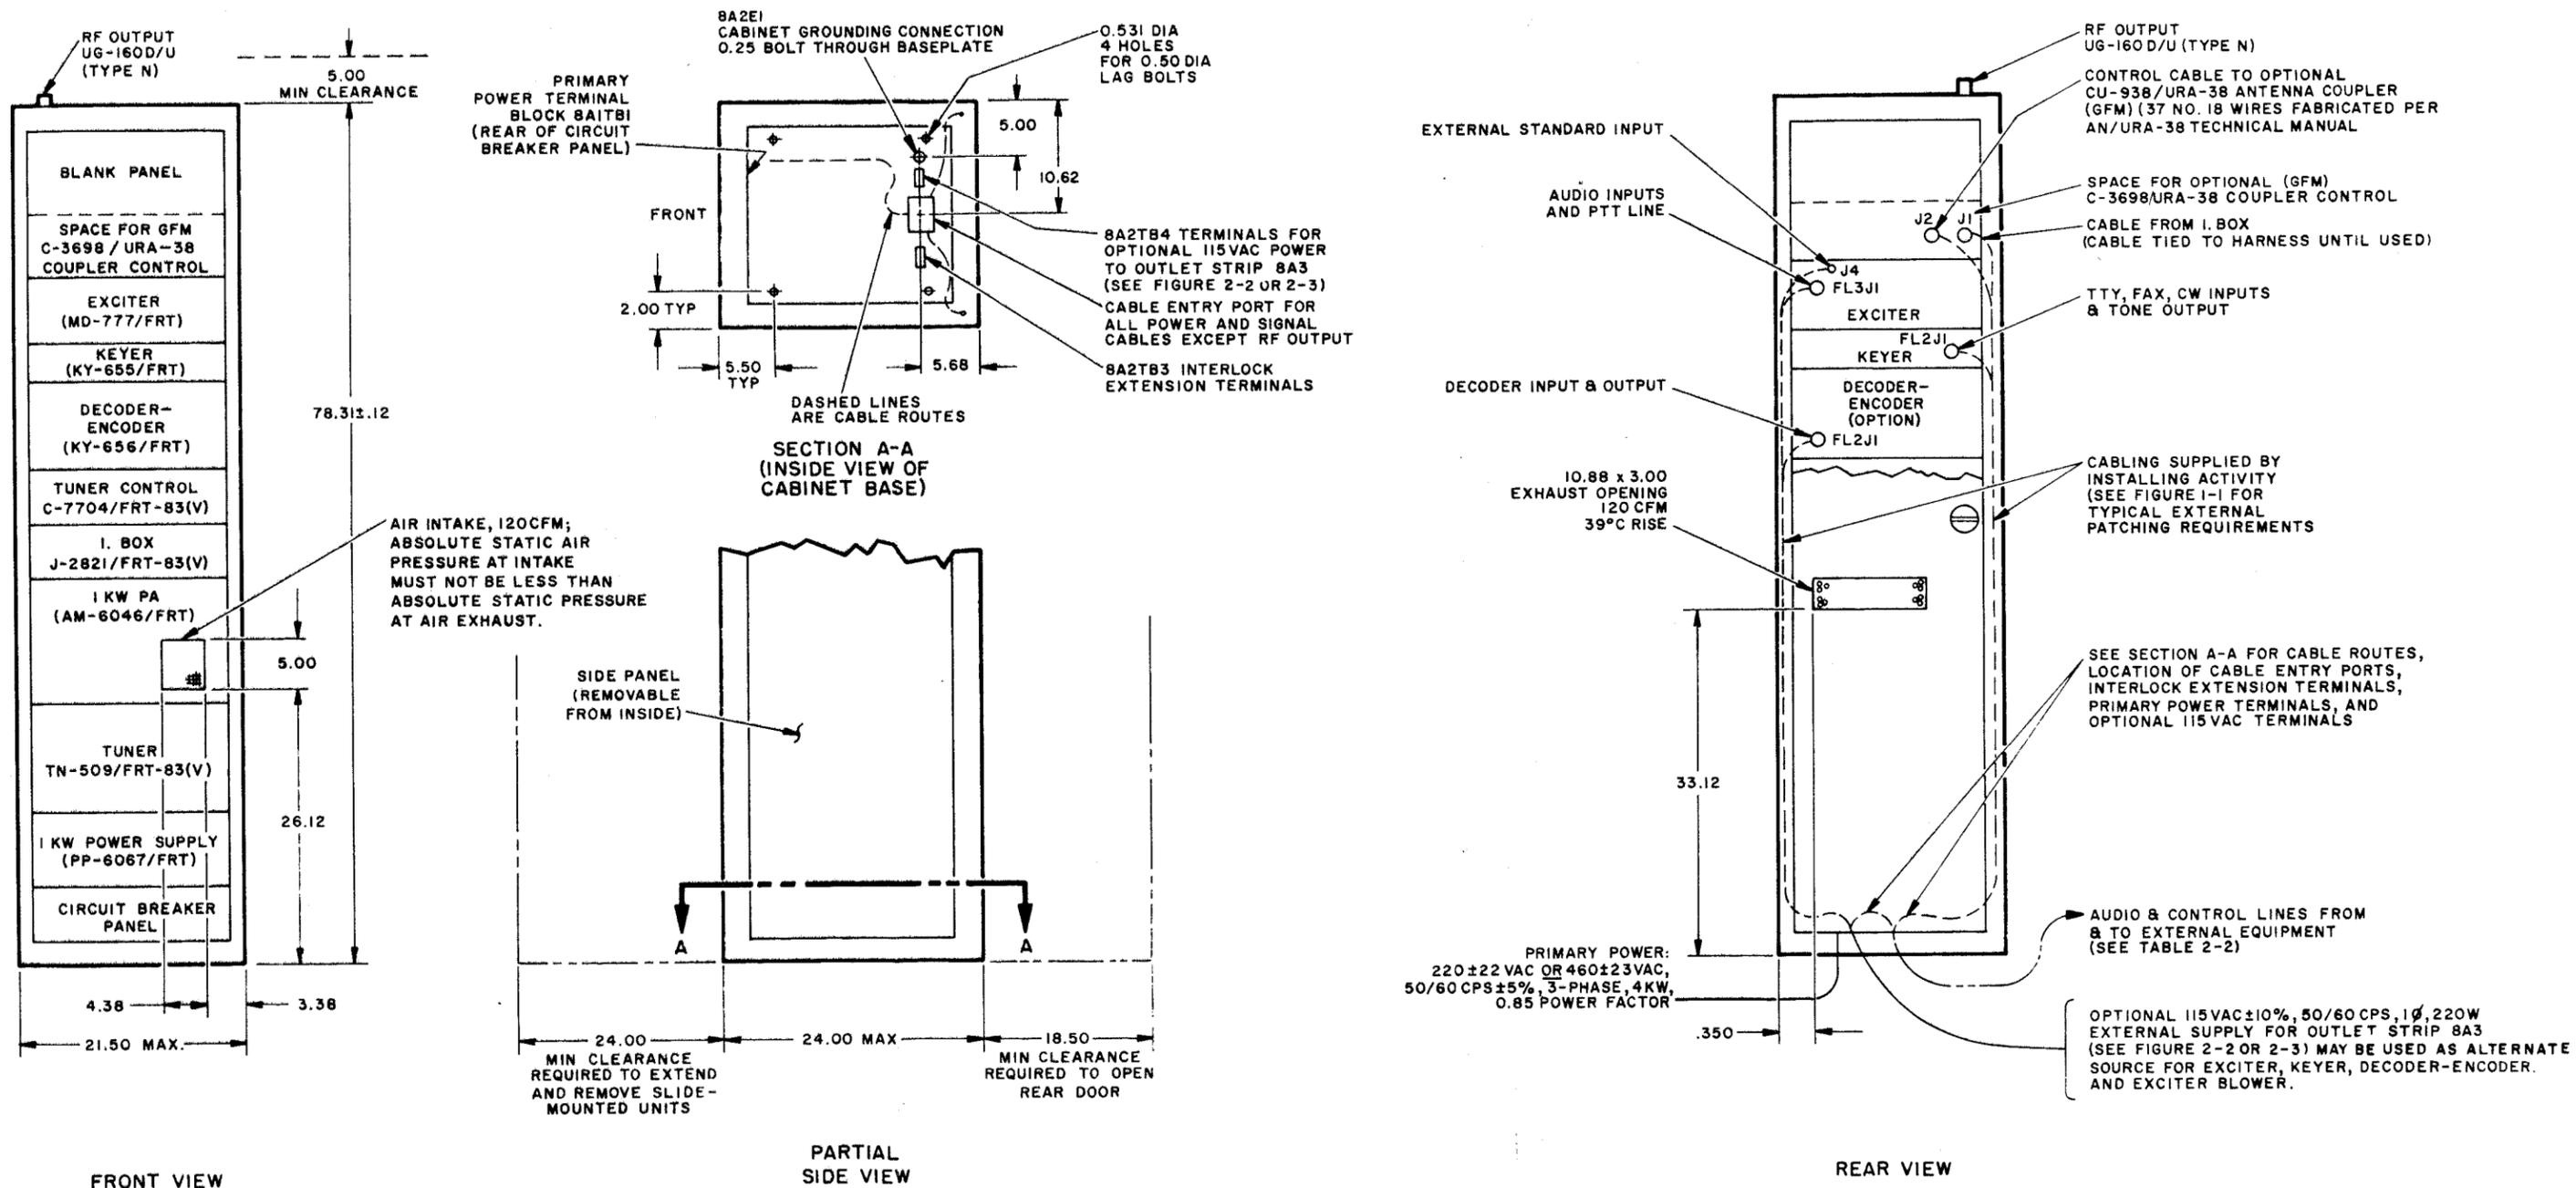

Figure 2-1. Radio Transmitting Set AN/FRT-83(V) Local Equipment Cabinet, Outline Drawing
2-3 The following instructions apply to the uncrated AN/FRT-83(V) local equipment cabinet with all optional units (Keyer and Decoder-Encoder). Consideration is also given to the possible use of a GFM AN/URA-38 Antenna Coupler Group, for which provisions have been made in the AN/FRT-83(V). Procedures for installation of the GFM AN/URA-38 Antenna Coupler Group are given in the Technical Manual for that equipment. Mounting space is provided in the local equipment cabinet for the C-3698/URA-38 Coupler Control unit as shown in figure 2-1, and cable connection required from that unit to the AN/FRT-83(V) local equipment are described in paragraph 2-24. Disregard instructions given for optional units not included in your particular installation. Also disregard installation instructions in the Exciter and Keyer technical manuals except as referenced herein. Table 2-1 is supplied as a guide to items required for installation.
2-8 EQUIPMENT LOCATION. Figure 2-1 shows the dimensions of the local equipment cabinet which are necessary for installation. The cabinet is designed for floor mounting, with input cables routed through floor ducts. The exact location should include minimum clearances as shown to allow access to the cabinet and the units. Cooling air flow requirements shown in figure 2-1 should be provided. Normally, it is necessary simply to prevent obstructions to the air intake and exhaust to allow circulation of ambient air.
**2-10 CABINET MOUNTING.** After the mounting location for the local equipment cabinet has been selected, refer to figure 2-1 to determine mounting holes required. Prepare the mounting holes, and ensure that a floor duct opening is provided in alignment with the entry port in the cabinet base. Set the cabinet in place, and secure with four 0.5 inch OD lag bolts. Base plate is accessible through rear door.
Location and identification of connectors and cable routing are shown in figure 2-1. Paragraph 2-13 provides details for the interconnection of the local equipment to the external equipment in the system. Paragraph 2-17 provides information for connection of primary power wiring to the local equipment cabinet.
2-19 With either line voltage, connect the phase A, B, and C wires of the primary power cable to terminals 1, 2, and 3 of terminal block 8A1TB1 on the rear of the circuit breaker panel (figure 2-1). The wire size depends on the particular installation, and should be determined by factors such as current requirements, and length of run. For typical installations, #14 AWG wire is generally sufficient. The circuit breaker panel rack screws can be removed to tilt the panel forward for access. The protective cover must be removed to expose the terminal block and circuit breaker 8A1CB1.
2-23 RF OUTPUT CONNECTION. The RF output of the AN/FRT-83(V) is supplied through a type "N" jack at the top of the cabinet (figure 2-1). The output connection to the antenna system (to the Antenna Coupler if used) should be made with 50 ohm coaxial cable and a UG-21E/U or similar type "N" plug selected to fit the particular cable.